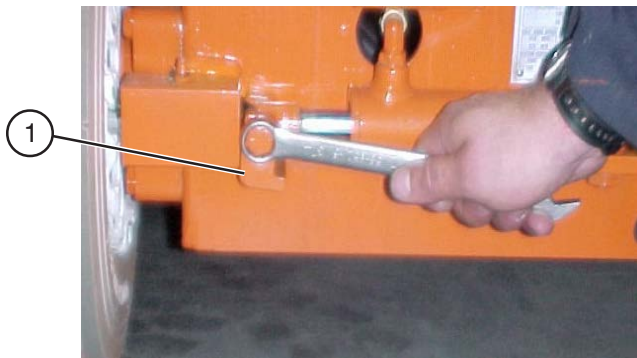

Figure 2-11. Parking Brake
**1- Free-Wheeling Valve** - The free-wheeling valve is located at the front or rear of the machine. Turning the valve knob counterclockwise to a fully opened position allows fluid to flow through the wheel motors, thus providing “free-wheeling” so that the work platform can be pushed, towed or winched after the brakes are released (Figure 2-11) without damaging the wheel motors. **When pushing, towing or winching, DO NOT exceed 2 mph (3.2 km/h). DO NOT push or tow the platform onto a downward slope or pull the platform down an incline towards the winch.** The Free-wheeling valve **MUST** be closed tightly (clockwise) for normal operation.